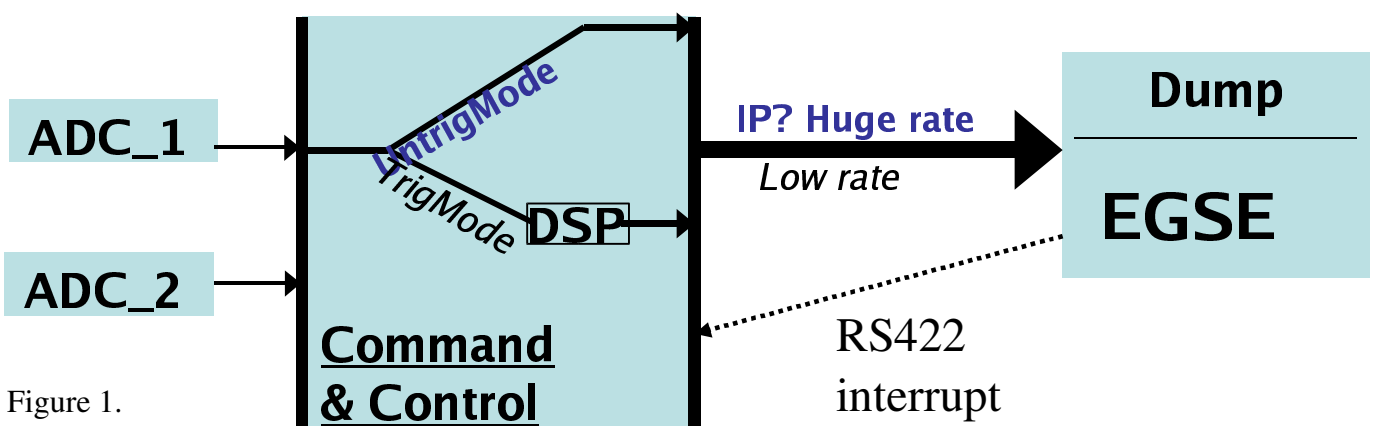
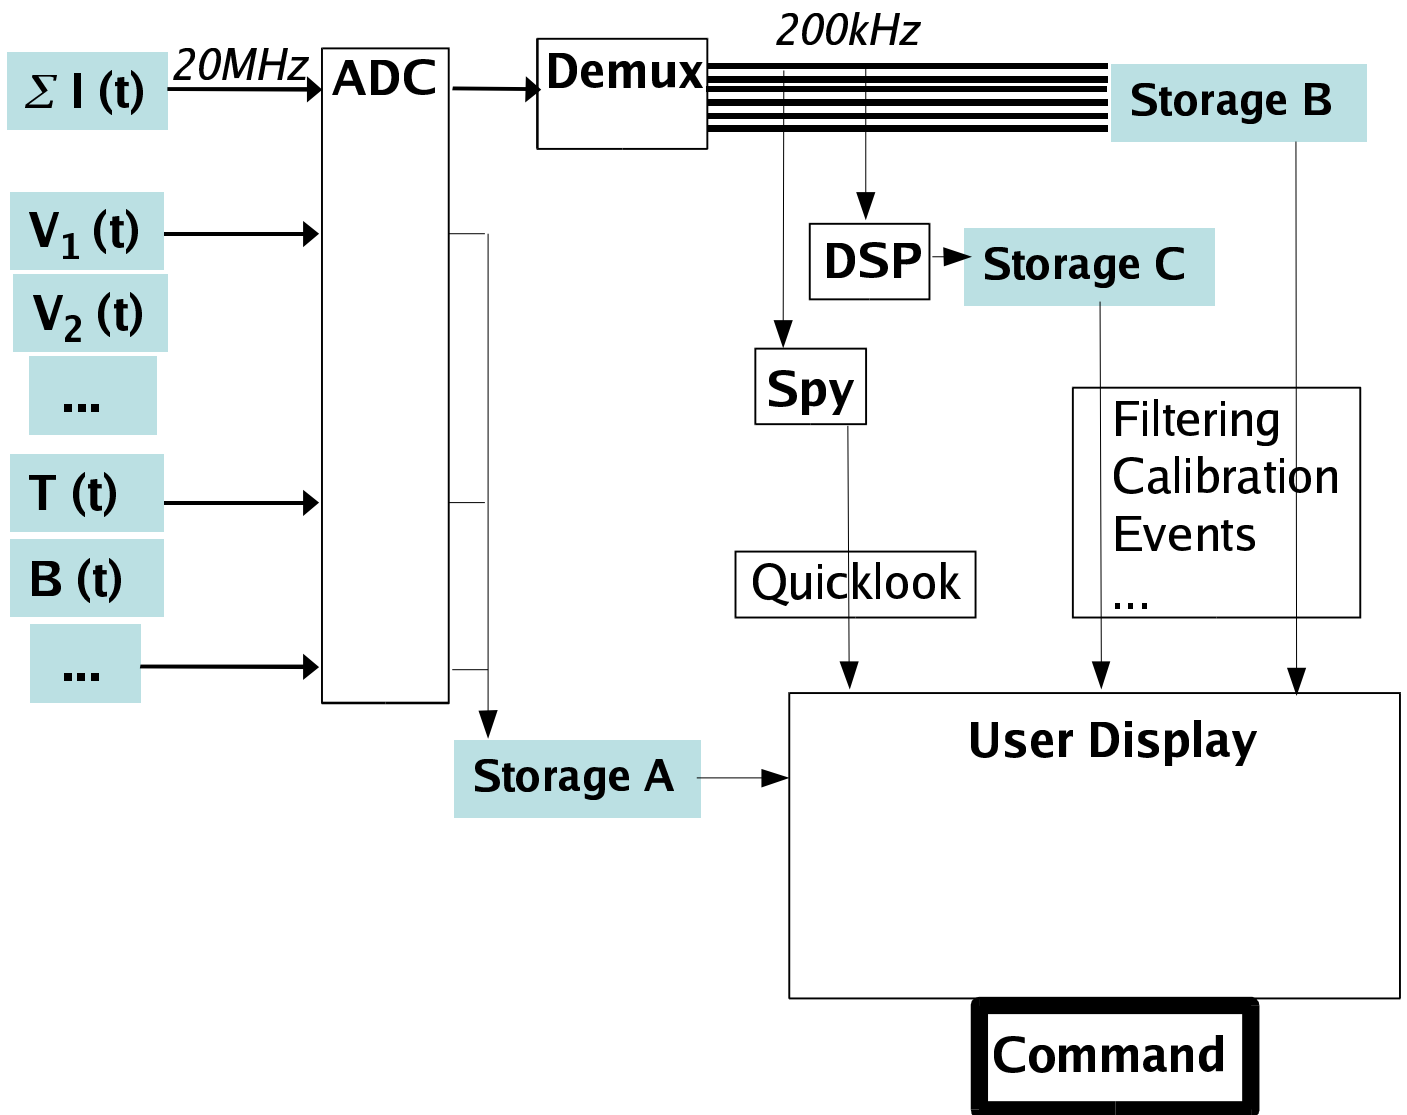

Figure 1.
Figure 2: Possible structure of data handling (still to be properly defined).
The discussion then shifted to both the conceptual and the physical structure of the required software. We elaborated further on the data types and processing sequence outlined in Javier's plenary session presentation and came up with Figures 1 and 2, which complement each other and only represent possible approaches.
- In Figure 1, the Command and Control device (C&C) includes the Field-Programmable Gate Array (FPGA) logic, the demultiplexor (Demux) and the Digital Signal Processing (DSP).
- Figure 2 aims at complementing Figure 1 by stressing aspects such as the origin of the data (either from readings of input/output voltages and external units or from the Flux-Locked Loop FLL output $I(t)$), the various data types and corresponding storage units, the spy buffer used for quicklook and the different paths to the user display.